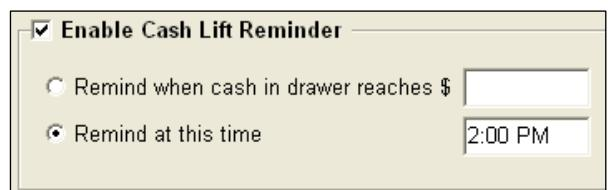

Figure 107
- **Remind at this time** – This will prompts you to perform a cash lift at the specified time (see Figure 107).